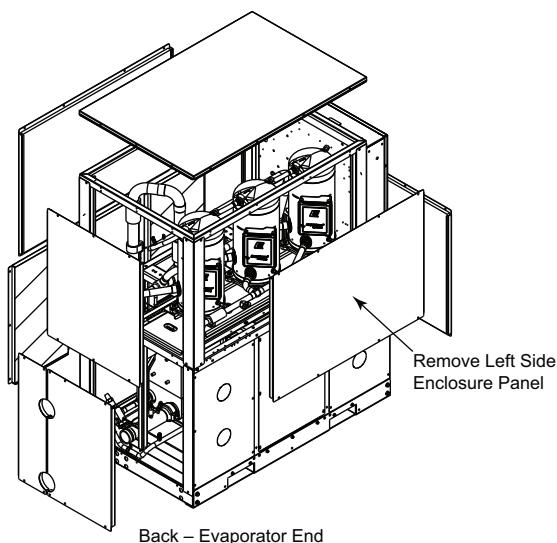

Fig. 4 — Left Side Enclosure Panel — 30MP017-080
4. For 30MP units with sound enclosure panels, access the compressors by removing the left side enclosure panel (facing the front/control box end). See Fig. 4.